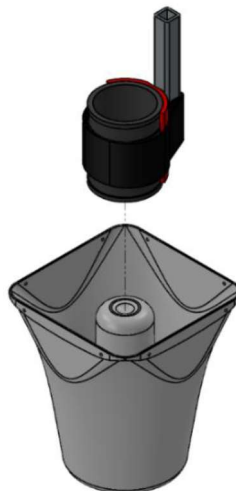

Figure 11 – Wrench Adapter Assembly Position on Re-Entrant Tip
- 3.1.2 Per Figure 11, affix Wrench Adapter Assembly (WA-001 and 156-99-005) to Re-Entrant Tip. Ensure Wrench Adapter Assembly is fully seated on Re-Entrant Tip and does not contact Loudspeaker Bell. Surface damage to the Bell may occur if the Wrench Adaptor contacts it during rotation.